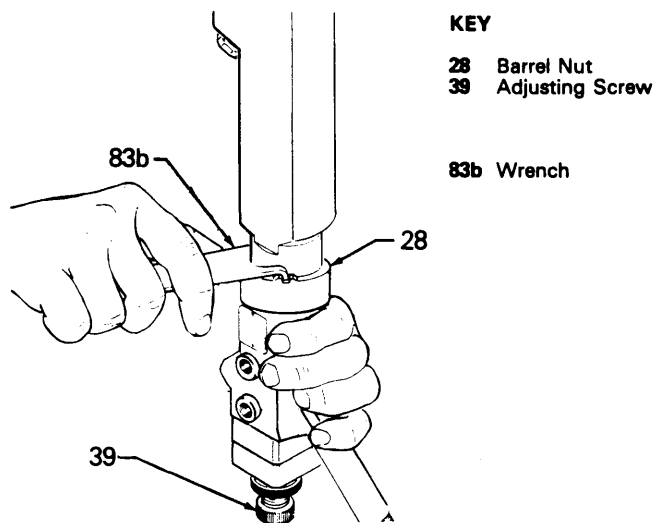

Fig 10
Assemble the barrel to the actuator, tightening the barrel nut (28) with the wrench (83b) supplied. See Fig 10.